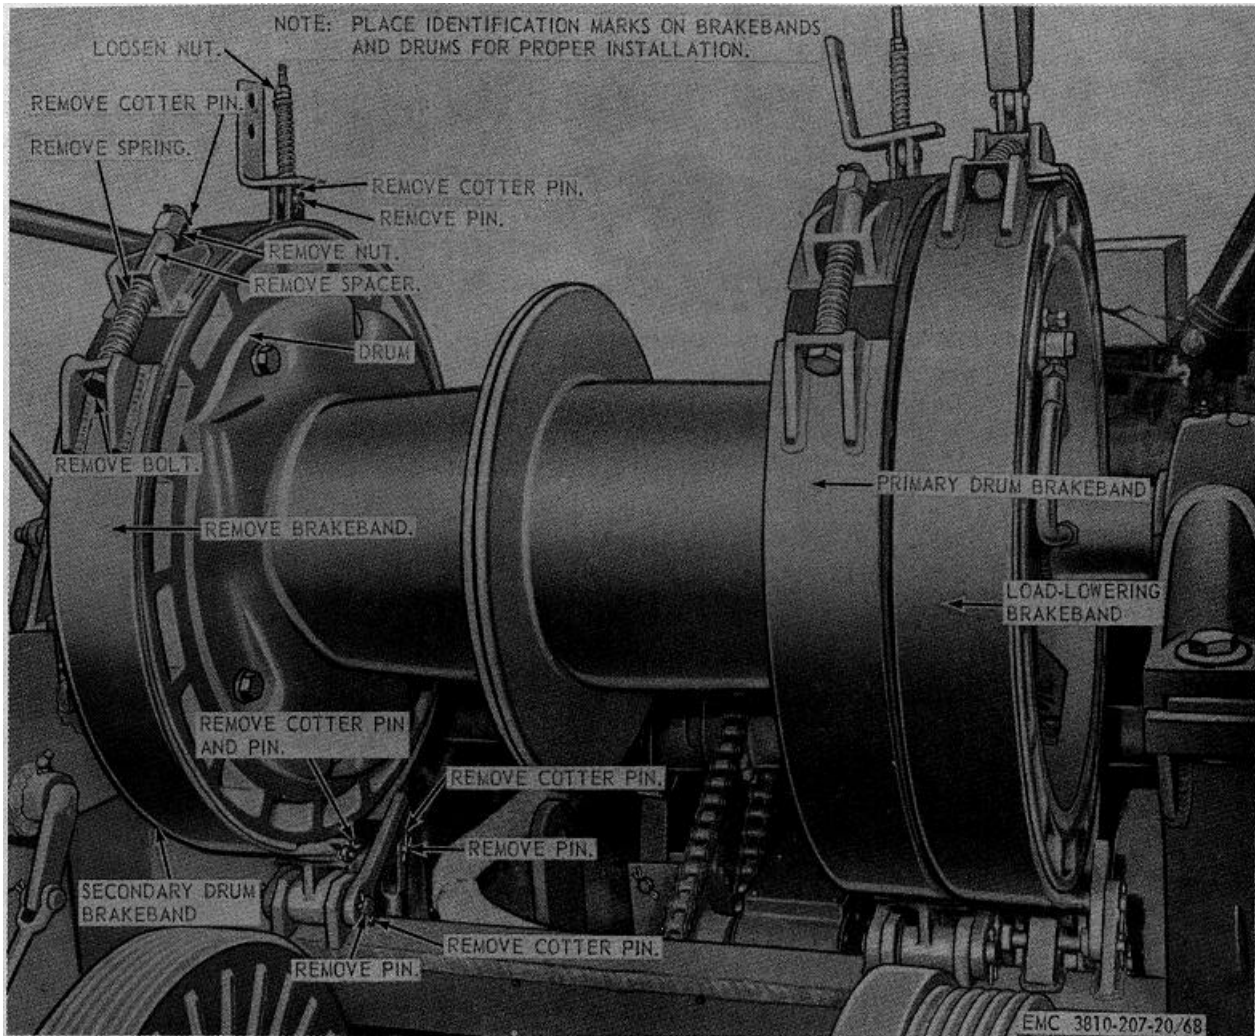

Figure 68. Secondary, primary, and load lowering brakebands, removal and installation.
- (1) Remove the secondary brakeband as instructed on figure 68.
- (2) Remove the primary and load lowering brakebands in a similar manner.
- (1) Install the secondary brakeband as illustrated on figure 68.
- (2) Install the primary and load lowering brakebands in a similar manner.
- (3) Adjust secondary, primary, and load lowering brakebands (TM 5-3810-207-10).